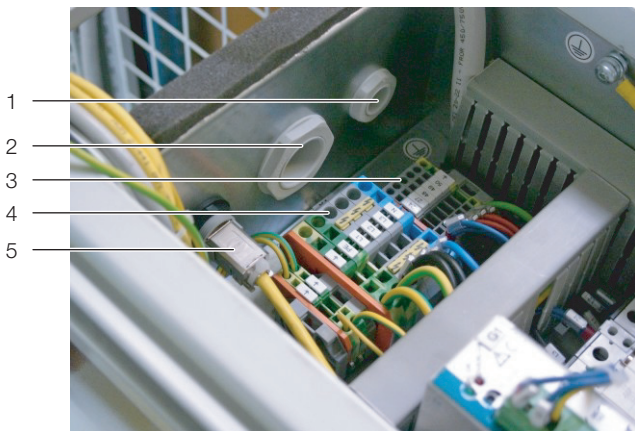

Fig. 23: Connection terminals in the electronics box
- If you wish to switch the LCP DX on and off remotely: In the electronics box, remove the jumper between the two terminals 24 and 27 ("Remote On-Off") and connect a floating remote switch (normally open contact) (fig. 23, item 3). If the two terminals are not jumpered, the status message "Din-Off" will appear in the display.